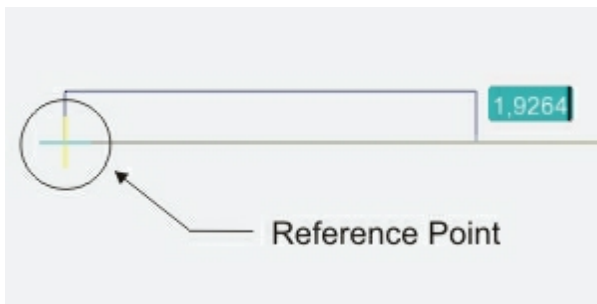

Figure 1
- Figure 1 shows a wall that is being drawn horizontally from left to right.